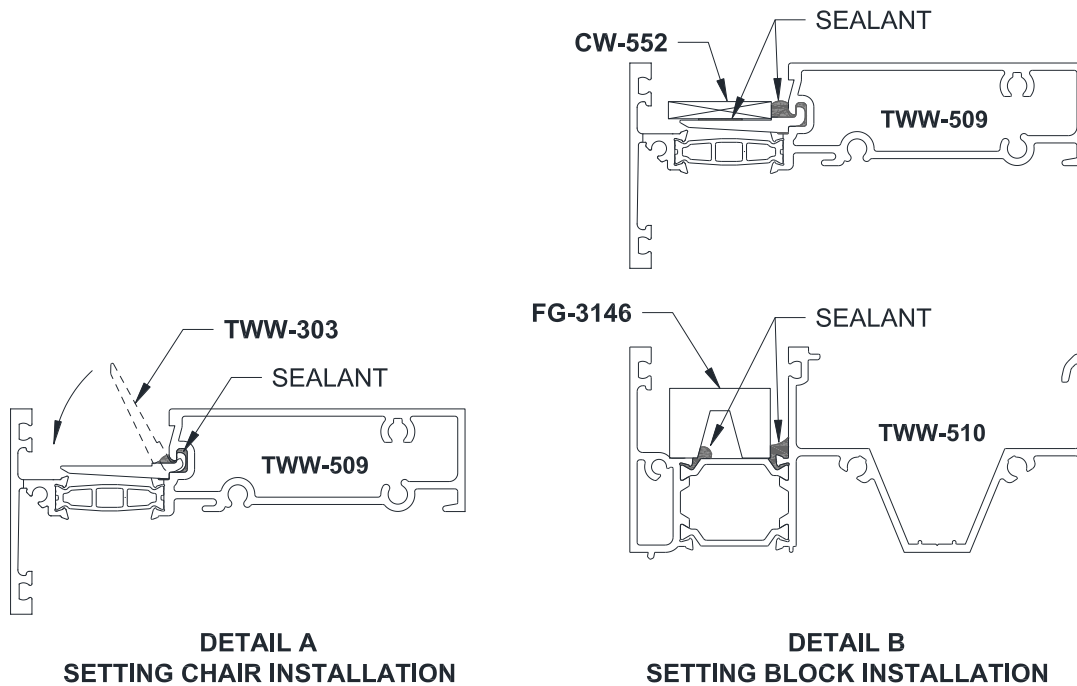

Figure 31: Setting Chair and Setting Block Installation, Flat Surface Assembly
12.2.2 Using a small amount of Sealant, install the Setting Chairs in the Horizontals. Use just enough Sealant to hold the Setting Chair in place. Immediately clean up any excess Sealant. Reference *Figure 31, Detail A*, for a visual guide.
12.2.3 Using a small amount of Sealant, install the Setting Blocks in the Sill and on the Setting Chair in the Horizontal. Use just enough Sealant to hold the Setting Blocks in place. Immediately clean up any excess Sealant. Reference *Figure 31, Detail B*, for a visual guide.